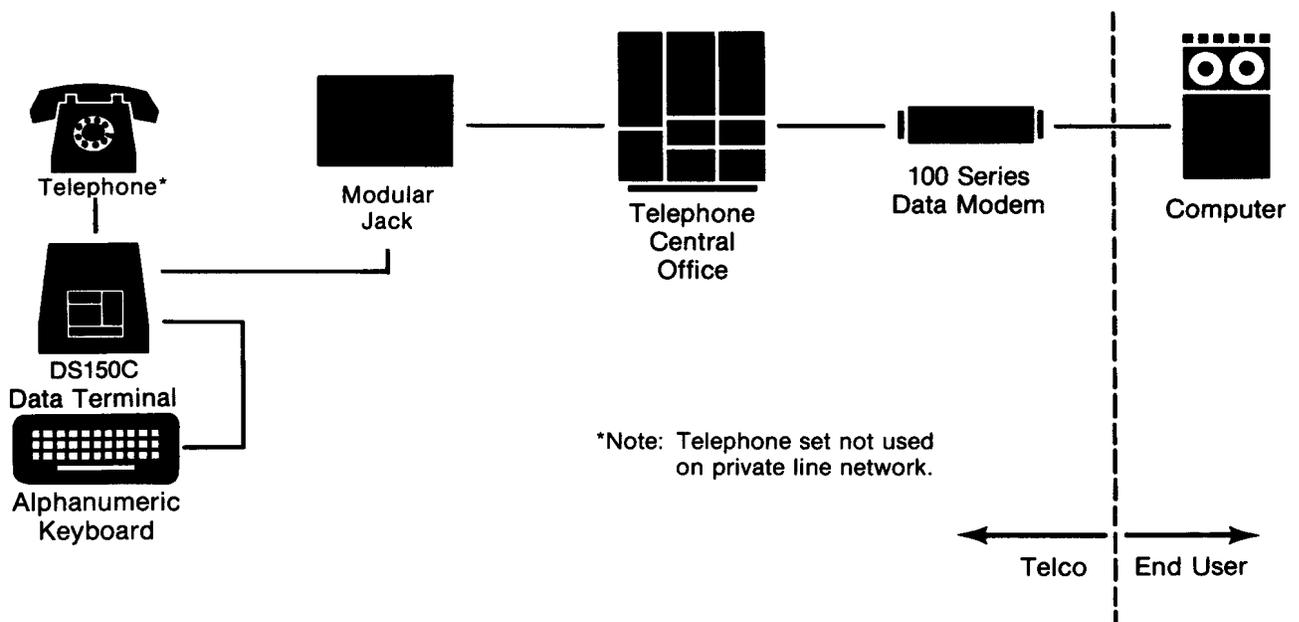

Figure 1, Simplified VuSet Keyboard System
1.02 As shown in Figure 1, the system includes the Plantronics Alphanumeric Keyboard and DS150C Data Terminal. These units are designed to interface with a telephone set via a modular connecting block.